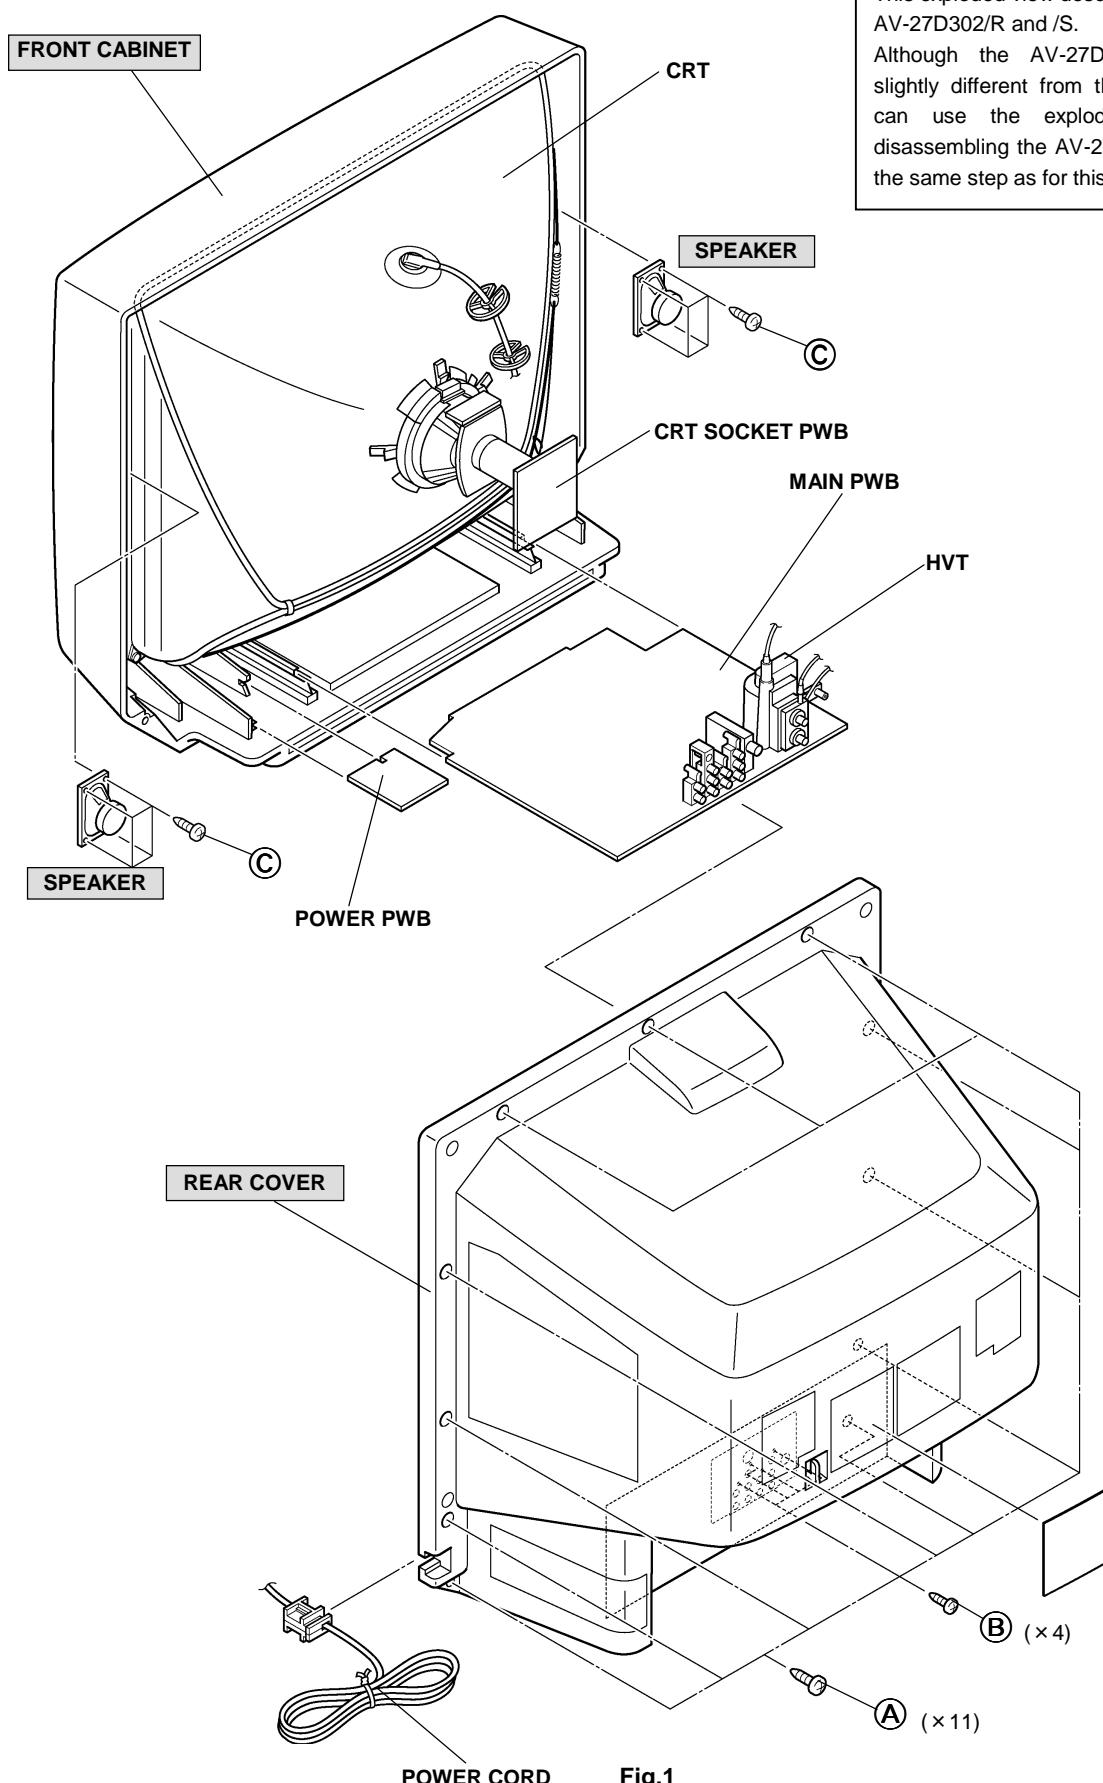

Fig.1
2. As shown in the Fig.1, remove the **11** screws marked **(A)**.
3. As shown in Fig.1, remove the **4** screws marked **(B)**.
1. As shown in Fig. 1, removing the **2** screws marked **(C)**, then remove the speaker.
(1) Power off Switch off the power and disconnect the power cord from the outlet.
(2) Replace the memory IC Initial value must be entered into the new IC.
(3) Power on Connect the power cord to the outlet and switch on the power.
(4) System constant check and setting 1) Press SLEEP TIMER key and, while the indication of " SLEEP TIMER 0 MIN. " is being displayed, press DISPLAY key and VIDEO STATUS key on the remote control unit simultaneously. 2) The SERVICE MENU screen of Fig.1 is displayed. 3) While the SERVICE MENU is displayed, again simultaneously press the DISPLAY and VIDEO STATUS keys to display the Fig.2 SYSTEM CONSTANT screen. 4) Refer to the SYSTEM CONSTANT table and check the setting items. Where these differ, select the setting item with the UP/DOWN (▲/▼) key and adjust the setting with the LEFT/RIGHT (◀/▶) keys. 5) After adjusting, release the LEFT/RIGHT (◀/▶) key to store the setting value. 6) Press the EXIT key twice to return the normal screen.	 <p>Fig.1</p>
(6) User settings Check the user setting items according to Table 2. Where these do not agree, refer to the OPERATING INSTRUCTIONS (USER'S GUIDE) and set the items as described.
(7) SERVICE MENU setting Verify what to set in the SERVICE MENU, and set whatever is necessary.(Fig.1) Refer to the SERVICE ADJUSTMENT for setting.